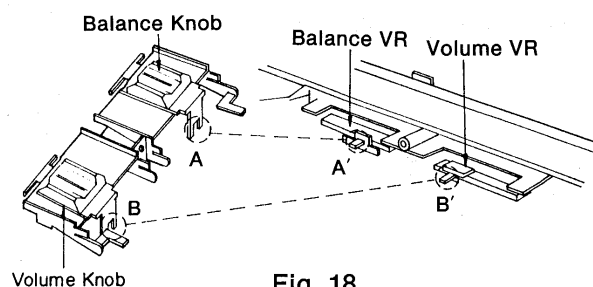

Fig. 18
- (*3) During installation, simultaneously fit in A and A', B and B'. (Fig. 18)